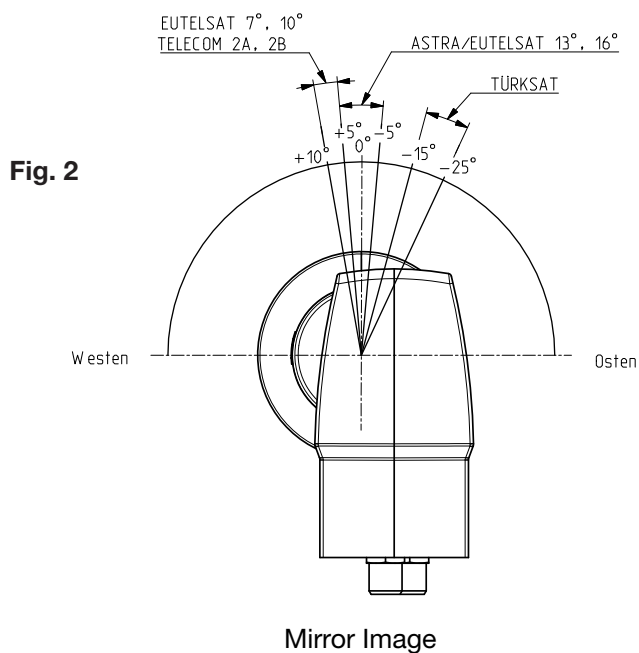

Fig. 2
2. See Fig. 2 for the polarisation setting angle.